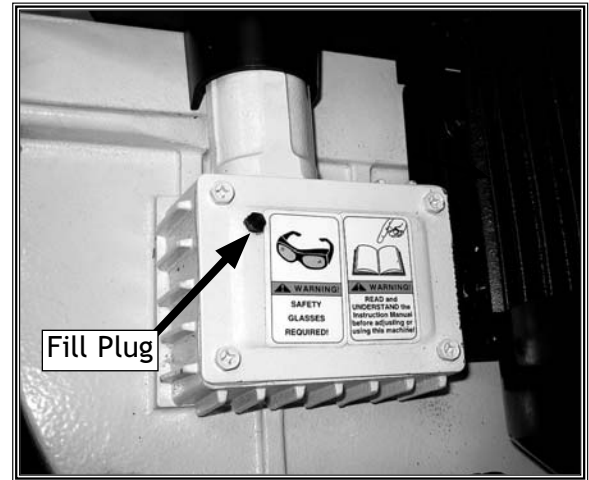

Figure 41. Gear box.
- **Gear Box:** With the headstock in the down position, wipe all dirt and metal from the fill plug, remove it, and check or add 80W-90W gear oil (see **Figure 41**). Change the oil every six months under heavy use; otherwise, change it annually.